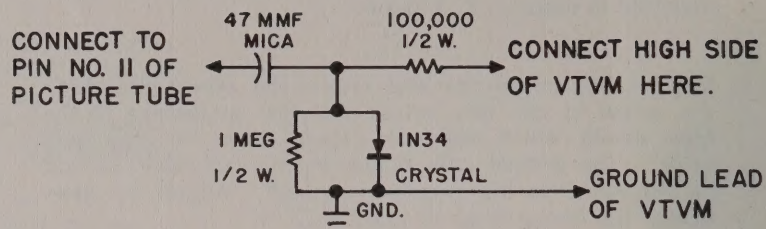

Fig. 7. Sound Alignment Test Circuit
Sound alignment test circuit shown in Fig. 7.
3. Connect the signal generator output through a .005 mfd. capacitor to test point (E) shown in the schematic diagram. Ground the shield of the generator output cable to the TV chassis.
4. Connect the sound alignment detector circuit and VTVM as shown in Fig. 7. Adjust the 4.5 mc. generator output (unmodulated) to give a 1 volt reading on the VTVM.
6. Disconnect the test circuit and connect the VTVM to test terminal (B) (Pin 2 of FM detector, V-113). See schematic diagram.
8. Connect the VTVM to test terminal (C), shown in the schematic diagram. Adjust the secondary of T-107 (top core) at 4.5 mc. for the zero reading which occurs between the positive and negative peaks. If the zero reading occurs at more than one setting, use the position nearest the top limit of the core.